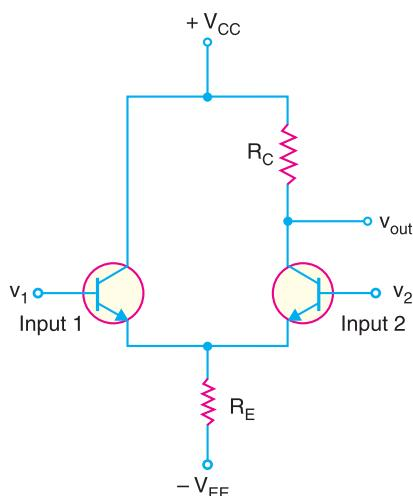

Fig. 25.20
Fig. 25.20 shows double-ended input and single-ended output differential amplifier (DA). In other words, there are two input signals and one output signal. *A DA is \*normally operated in this fashion.* When input signal  $v_1$  (input 1) is applied, the output signal is in phase with the input signal i.e., there is no phase shift in the output signal. For this reason, input signal  $v_1$  is called *non-inverting input*. When input signal  $v_2$  (input 2) is applied, the output signal is  $180^\circ$  out of phase with the input signal. For this reason, input signal  $v_2$  is called *inverting input*.